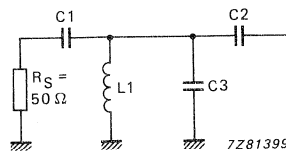

Fig. 3 Input circuit for optimum noise.
1. Measured with an input circuit for optimum noise. (See Fig. 3)